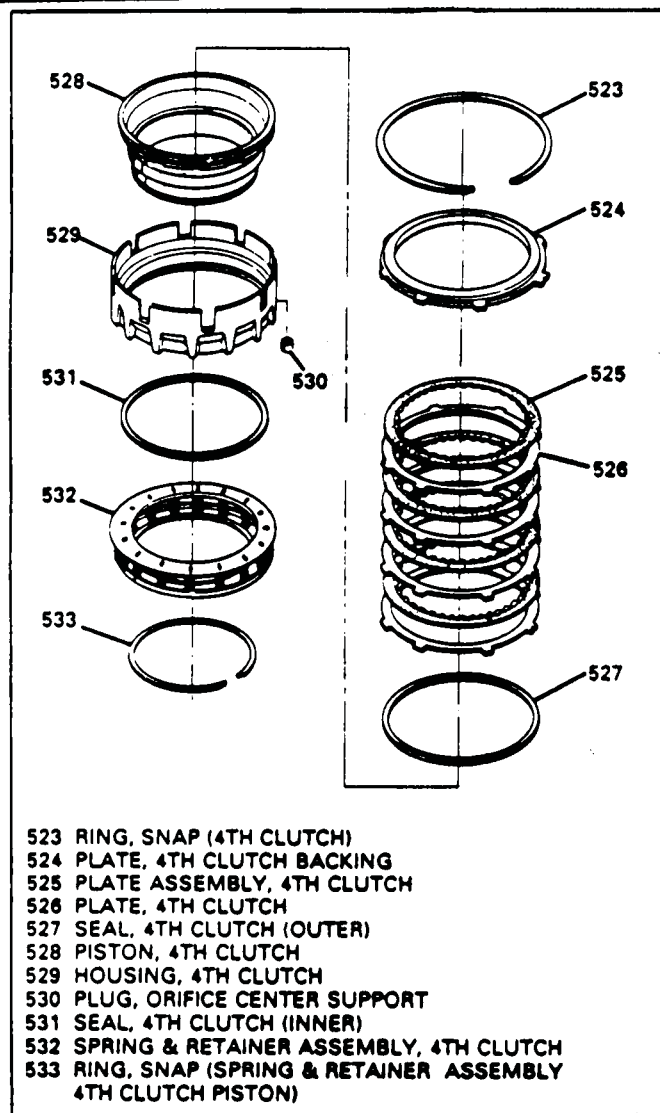

Figure 87
1. Remove snap ring from the top of fourth clutch backing plate (See Figure 87).
4. Compress the return spring assembly and remove the snap ring (533) as shown in Figure 87.
11. Insure the presence of the orifice cup plug in the 4th clutch housing (See Figure 87).